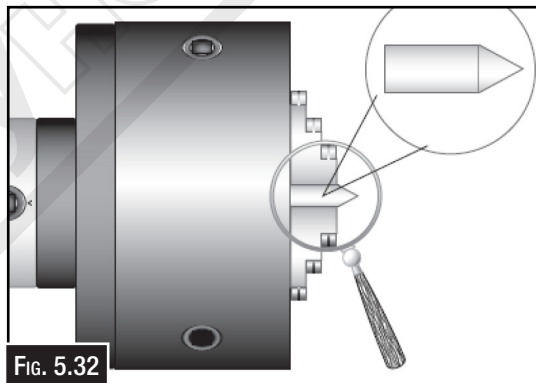

FIG. 5.32
2. Make a dead center by turning a shoulder to make a shank. Flip the piece over in the chuck and turn a 60° point (Fig. 5.32). As long as it remains in the chuck, the point of your center will be accurate to the spindle axis.